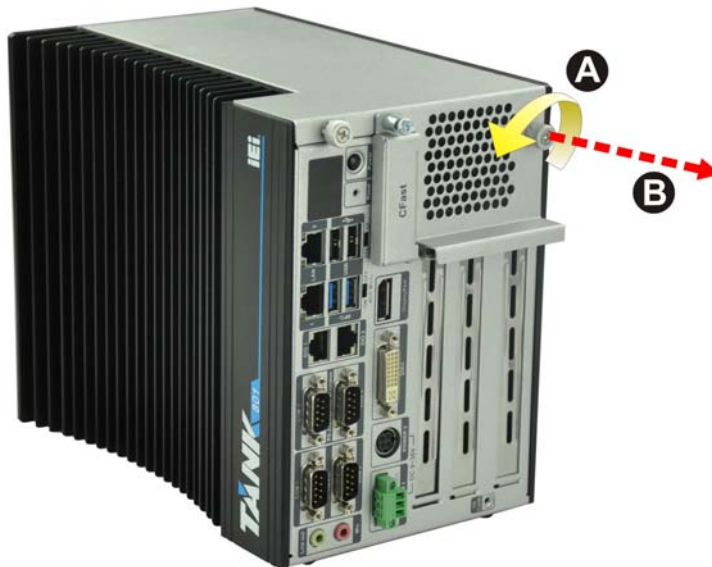

Figure 3-4: Unscrew the Cover
Step 1: Loosen the thumbscrew, slide the cover inwards (**Figure 3-4**), and then lift the cover up gently.
Step 1: Remove the two retention screws on the rear panel and loosen the two thumbscrews on the front panel, slide the cover inwards, and then lift the cover up gently (**Figure 3-4**).